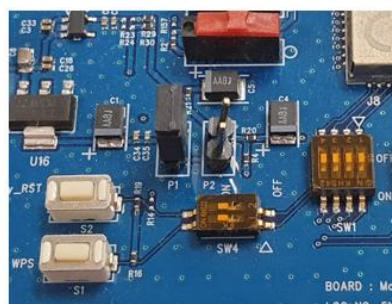

Figure 51. Set up DA16200 EVB jumper
2. To disconnect the USB power and source from the Pro board only, open the jumpers (P2) of the power line on the DA16200 EVB as shown in Figure 51.